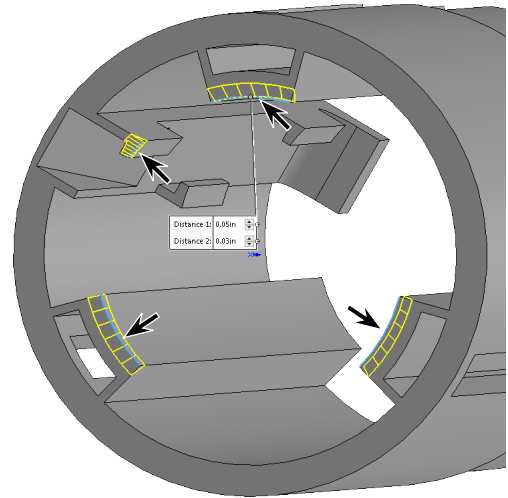

Fig. 112
Step 1. Rotate view to view **bottom inside edges of Can**, hold down middle mouse button (wheel) and drag to rotate view, **Fig. 112**.
click **inside bottom circular edges of Fin housing and Hook housing**, **Fig. 112**